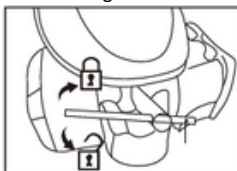

Fig. 30
2. Loosen the spark plug by turning it counterclockwise with a spark plug wrench (33), then carefully remove it (Fig. 30).